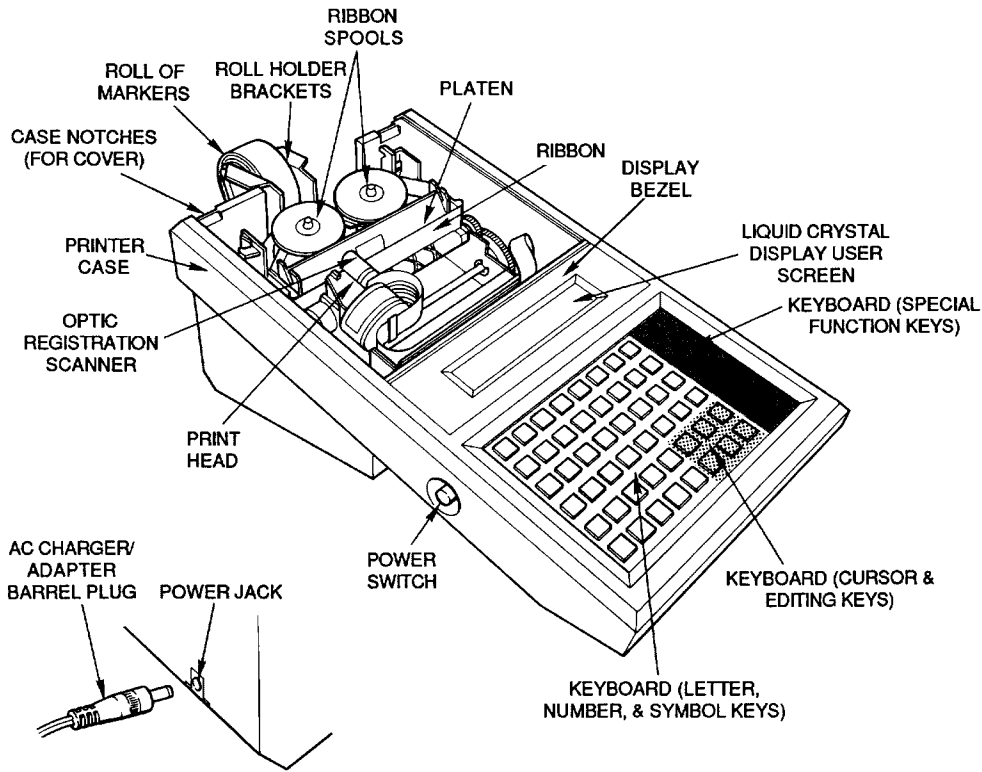

Figure 5. Bradymarker XC Plus Printer
35. **DESCRIPTION OF PRINTER.** The Bradymarker XC Plus Printer (BMXC-Plus) is a portable, self-contained dot matrix label/sleeve printing system (Figure 5).